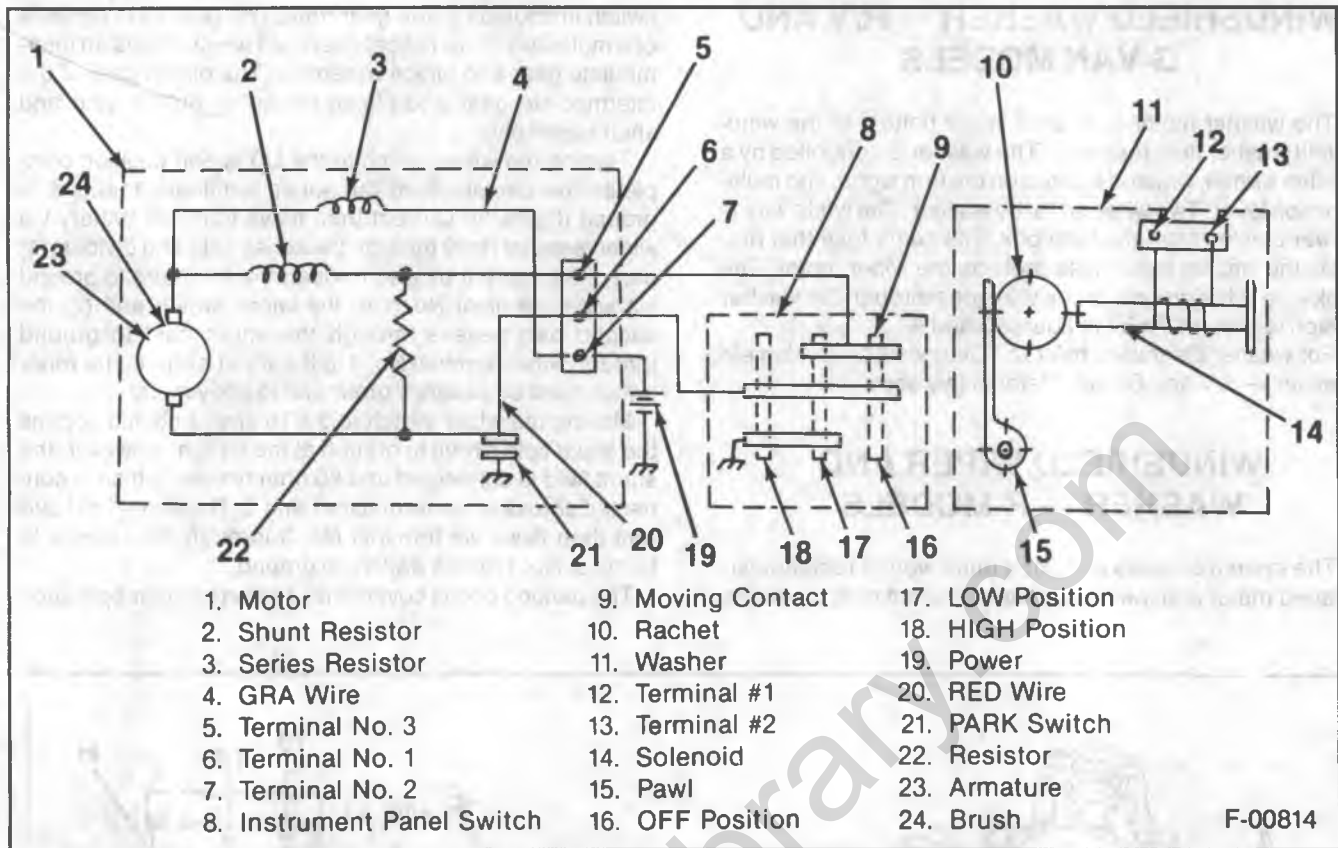

Figure 3—P-Model Wiper Diagram
The washer motor is located in the bottom of the windshield washer fluid reservoir. The washer is controlled by a washer switch, which is located on the turn signal and multi-function lever. Two wires go to the washer. The white wire is power coming from the fuse box. The same fuse that protects the washer motor also protects the wiper motor. The pink wire is the ground circuit that goes through the washer switch to ground. Refer to figures 3 and 4.
Turning the wiper switch to the LO speed position completes the circuits from the wiper terminals 1 and 3 to ground (figure 3). Current then flows from the battery via wiper terminal No. 2 through the series field and divides; (1) part of the current passes through the armature to ground via wiper terminal No. 1 to the wiper switch and (2) the second part passes through the shunt field to ground through wiper terminal No. 3 to the wiper switch. The wiper switch must be securely grounded to body metal.